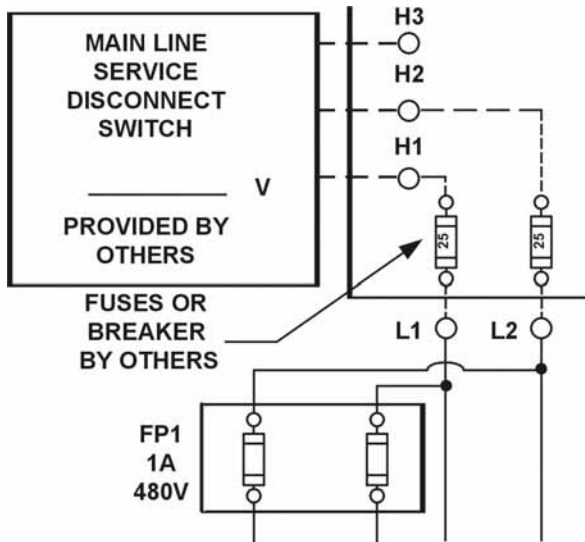

Figure 3-4
- The fourth circuit is a separate fused circuit from the primary side of the power transformer terminals L1 and L2 to the FP1 fuse block on the drive side of the controller. [See Figure 3-4.]